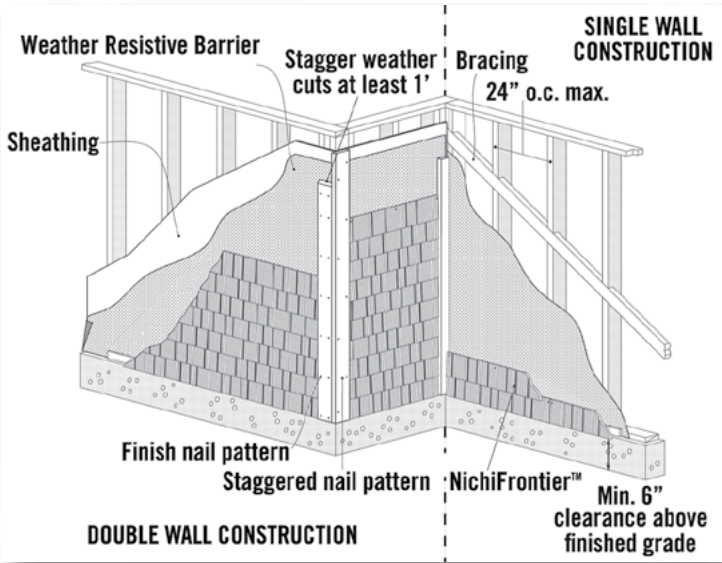

Fig. 20.1
- NichiFrontier™ boards can be installed directly on APA rated sheathing, braced wood or steel stud (20GA or heavier) construction, spaced at a maximum of 24" o.c. or over sheathing with vertical solid wood backing. Fasteners must penetrate wood studs a min. of 1" and 1/2" in steel studs. (Fig. 20.1)